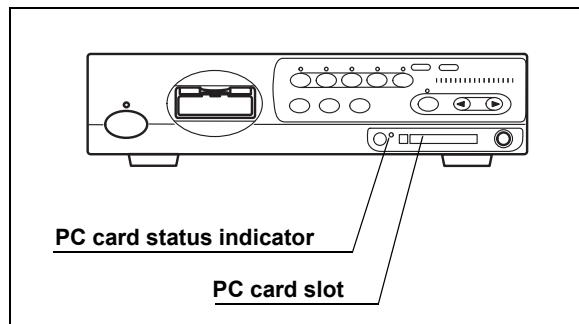

Figure 5.56
1. Insert the PC card into the PC card slot. The PC card status indicator lights up green (see Figure 5.56).